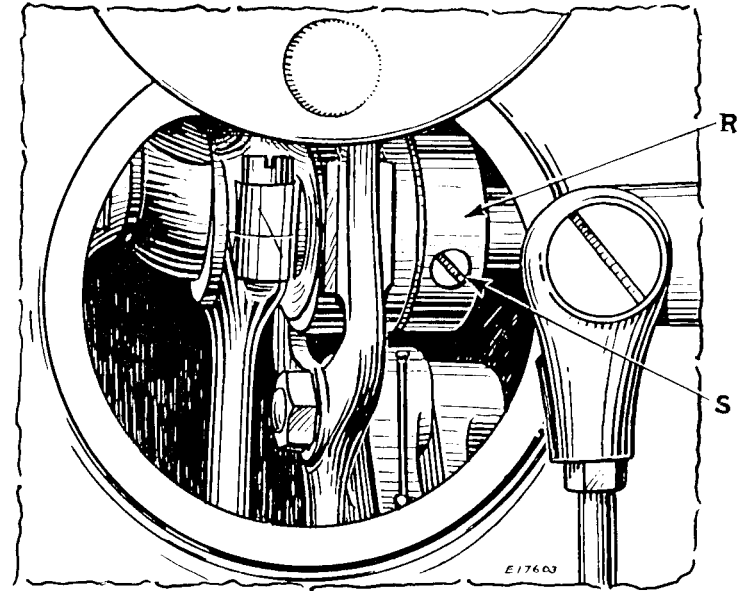

FIG. 18. ADJUSTMENT FOR TIMING FEEDING MECHANISM
When it is necessary to time the feeding mechanism, press the stitch regulator (A, Fig. 2, page 4) down to its lowest point for the longest stitch and turn up the round cover plate at the back of the machine. Loosen the feed eccentric set screw (S, Fig. 18) and turn the feed eccentric (R, Fig. 18) until the feed is correctly timed as instructed above, then securely tighten the set screw (S).